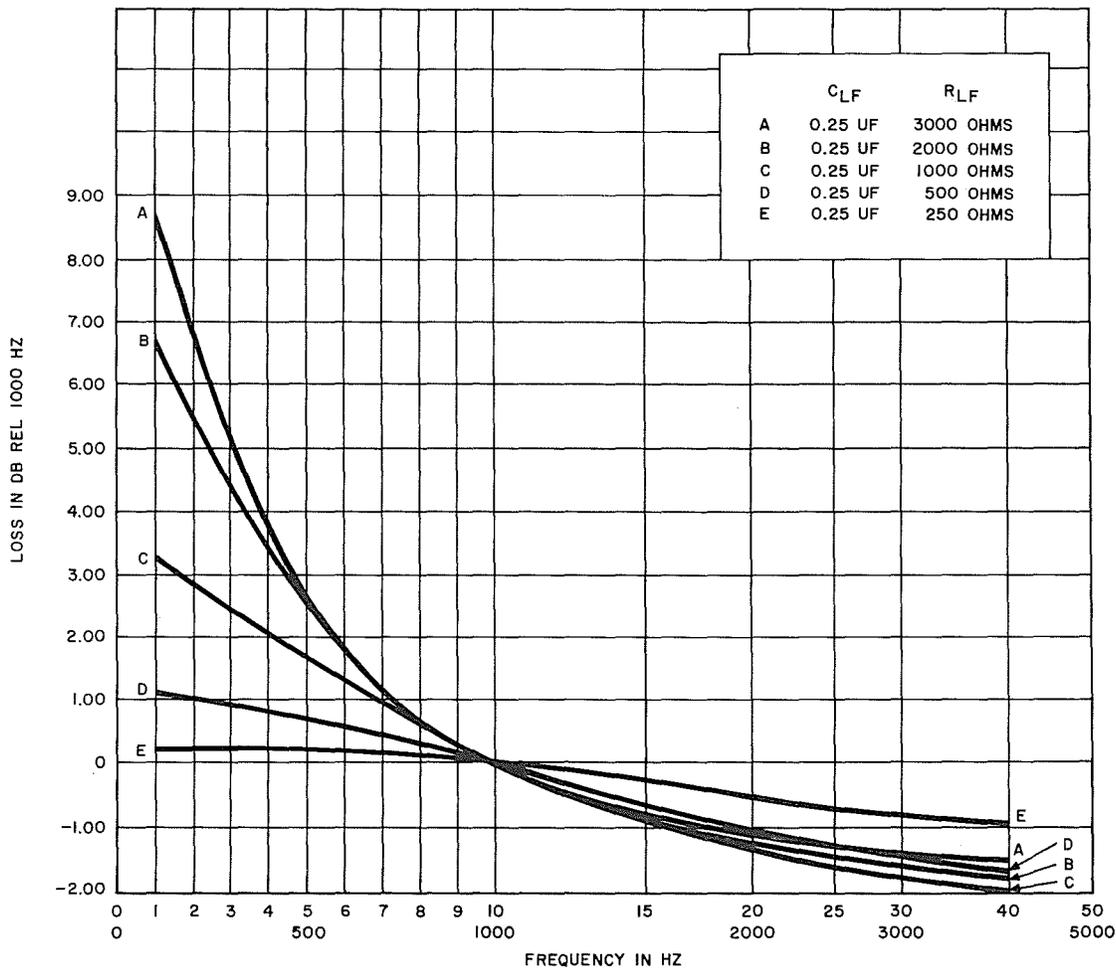

Fig. 4—359D Equalizer, Low-Frequency Section—Loss-Frequency Characteristics—Between 600-Ohm Impedances—Varying R_{LF} for C_{LF} Constant at $0.25 \mu F$
3.05 The series arm, low-frequency components R_{LF} and C_{LF} provide compensation for amplitude distortion in the 4-wire line facilities at frequencies up to approximately 1000 Hz. Figures 4 and 5 illustrate typical equalization losses which may be obtained by various combinations of C_{LF} and R_{LF} when inserted between 600-ohm terminations. These results are approximately correct for the actual repeater environment. Figure 4 shows the